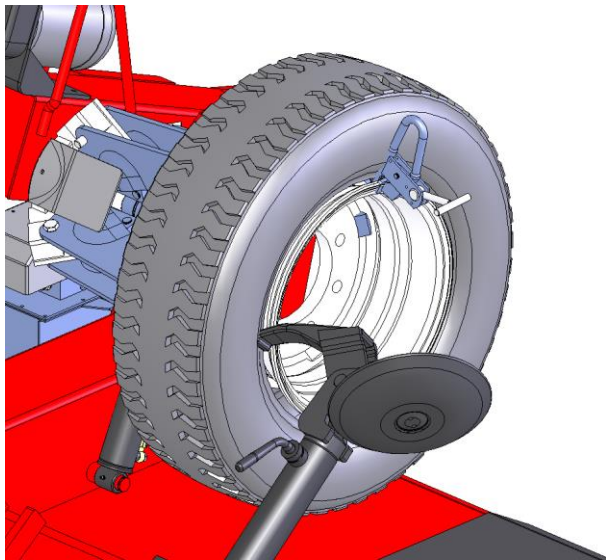

Fig. 15
- If it is not possible use the special pincers supplied( Fig. 15 ) and mount the two beads at the same time. To mount the second bead proceed as shown in.
- Place the tyre on the rim , clamp the special pincers ( Fig. 15/ Fig. 7 ) on the front rim flange and position the tool with reference to the edge of the rim flange.
- Insert the inner tube and support the wheel on the trolley platform ( Fig. 15 ) to assist the operation.
- Re-position the tool near to the valve with the relevant reference point on the edge of the rim. Clamp the pincers ( Fig. 15/ Fig. 7 ) to the left of the tool and rotate the wheel clockwise making sure that the bead is inside the rim channel.